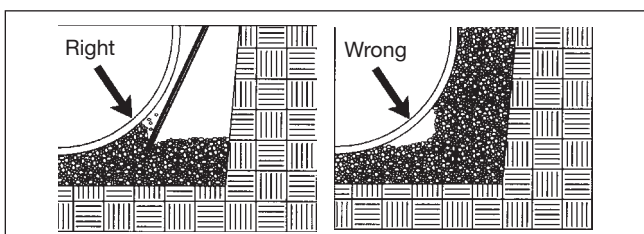

FIGURE 5-1
5.2.16.1. Use a nonmetal tamping rod long enough to reach beneath the tank to push material under the tank body and domes until solid resistance is felt, all voids are filled and the tank is fully supported. See FIGURE 5-1.